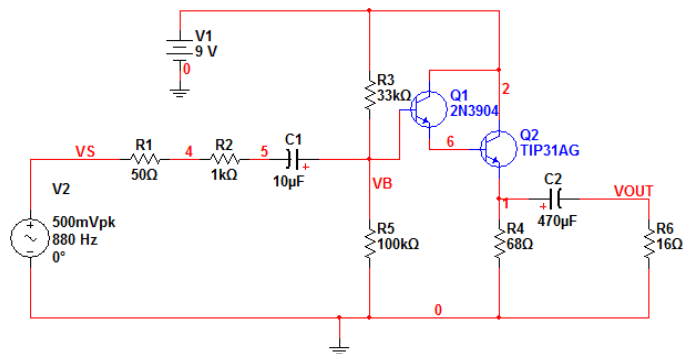

Figure 4: Emitter follower using Darlington-connected transistors.
**TASK 3:** Simulate the emitter follower shown in Figure 4.